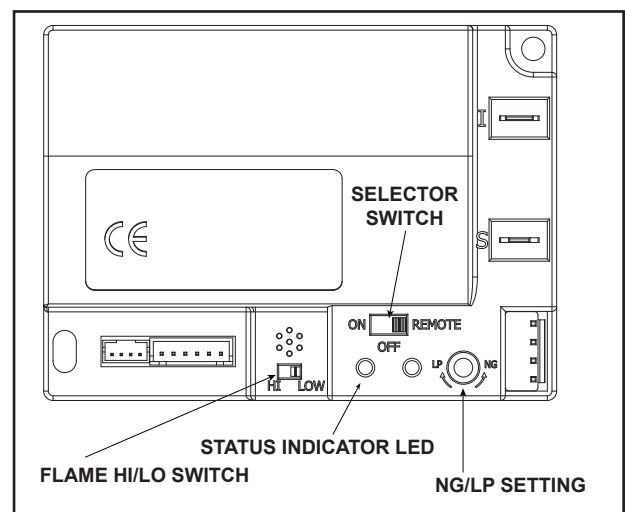

Figure 12.3 Control Module
1. The control module has an ON/OFF/REMOTE selector switch that must be set. See Figure 12.3.
2. If using a wired wall switch with the module in REMOTE mode, the flame output can be adjusted with the HI/LO selector switch on the module. See Figure 12.3. Note that the flame HI/LO selector switch will become inactive once an optional remote control (RC300AU) is programmed to the control module. Note that the control module will always ignite the fireplace on HI and remain so for the initial 10 seconds of operation. If the HI/LO is switched to the LO position, the flame output will automatically drop to the lowest setting after the flame has been established for 10 sec. After this 10 second period, the flame can be adjusted from HI to LO with the switch.